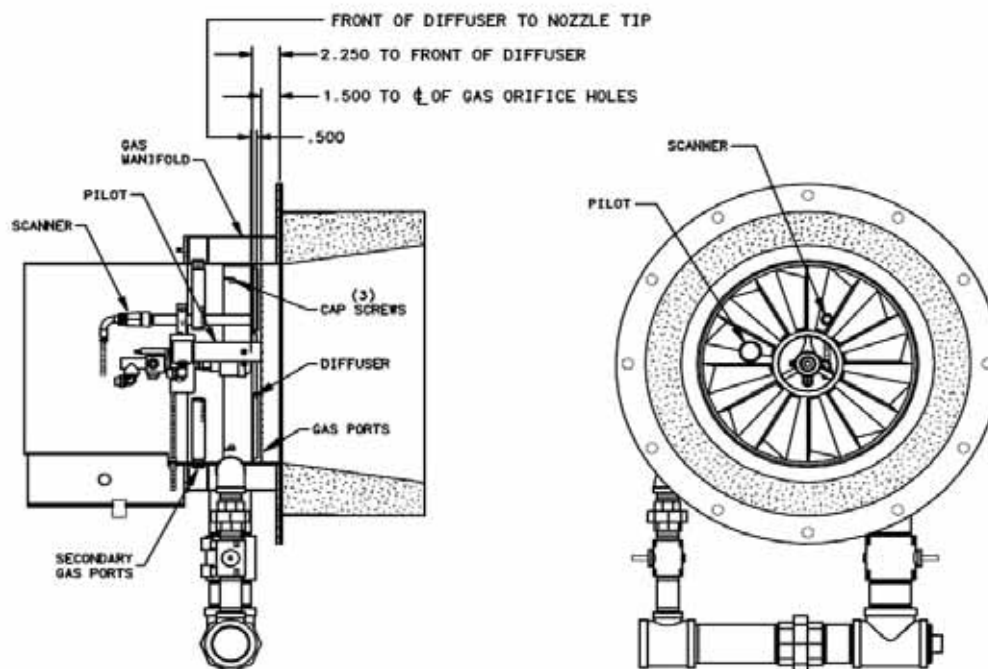

FIGURE 5-2. Firing Head Assembly: Dual Manifold
To insure proper atomizing, the tip must be screwed in tightly with the swirler seating spring pressing the swirler tight against the nozzle tip. Turn the swirler a few times to be sure it fits snugly in the nozzle and the spring is pressing the two parts firmly together. When reinstalling, be sure the nozzle is centered with the proper distance from the diffuser (see Figures 5-2 and 5-3).
5. When reinstalling, be sure the diffuser is centered with the proper distance as shown in Figures 5-2 and 5-3.